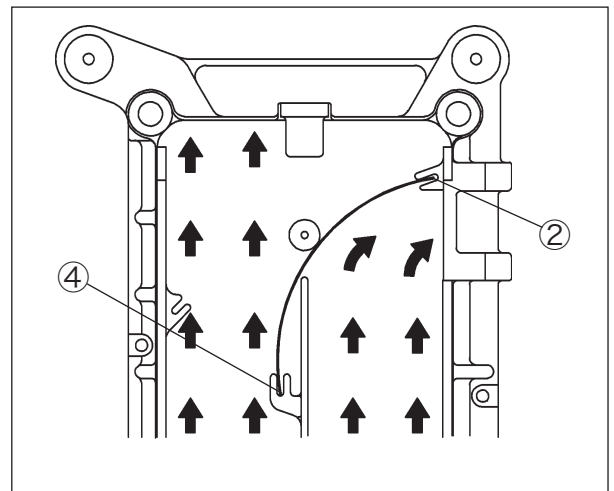

Fig. 8-3
For high speed and less dust during sewing, insert the air deflector ① into the guides ② and ④. (See Fig. 8-3)